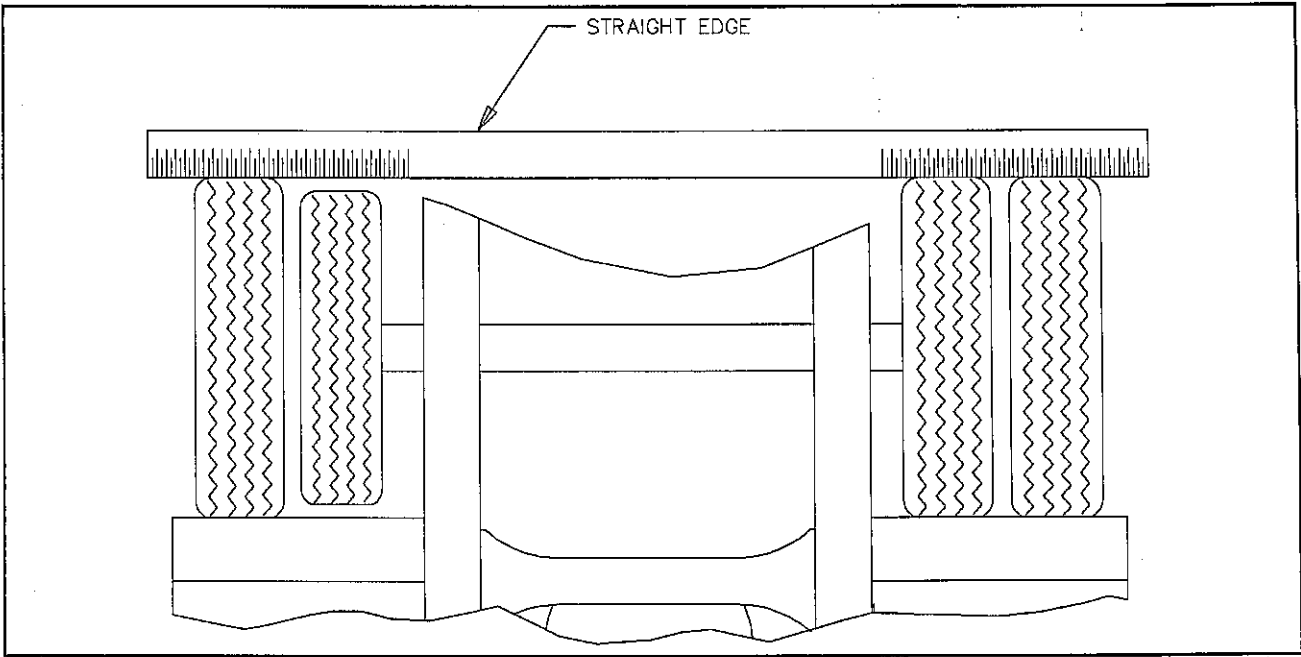

Figure 4-11 Straight Edge Method
**b. Straight Edge or String Method:** (This method can not be used if tire and wheel assemblies are not mounted on the axle.) Jack trailer up until the wheels are off of the ground. Hold a straight edge against the tires of both ends of an axle. A gap at one tire indicates a smaller tire. A maximum of  $1/8$ " gap is allowed (See Figure 4-11).